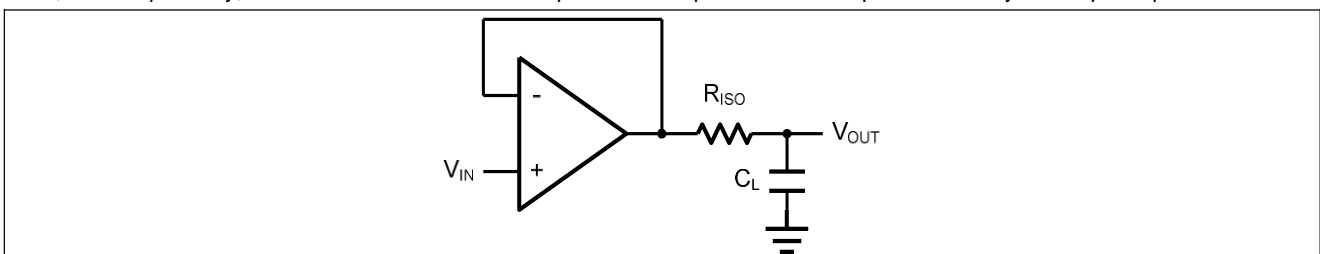
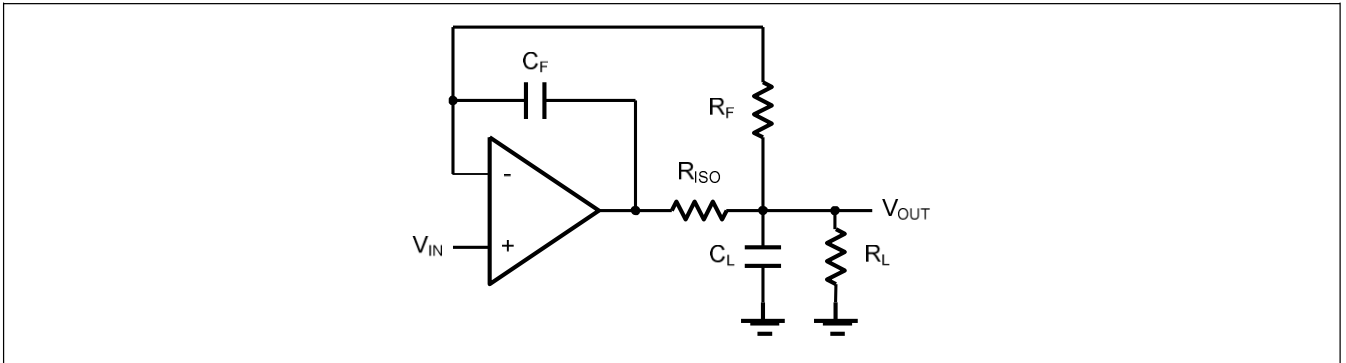

Figure 2 Indirectly Driving a Capacitive Load Using Isolation Resistor
Figure 3. Indirectly Driving a Capacitive Load with DC Accuracy
The HT600X family is optimized for bandwidth and speed, not for driving capacitive loads. Output capacitance will create a pole in the amplifier's feedback path, leading to excessive peaking and potential oscillation. If dealing with load capacitance is a requirement of the application, the two strategies to consider are (1) using a small resistor in series with the amplifier's output and the load capacitance and (2) reducing the bandwidth of the amplifier's feedback loop by increasing the overall noise gain. Figure 2 shows a unity gain follower using the series resistor strategy. The resistor isolates the output from the capacitance and, more importantly, creates a zero in the feedback path that compensates for the pole created by the output capacitance.
The circuit in Figure 3 is an improvement to the one in Figure 2. R_F provides the DC accuracy by feed-forward the V_{IN} to R_L . C_F and R_{ISO} serve to counteract the loss of phase margin by feeding the high frequency component of the output signal back to the amplifier's inverting input, thereby preserving the phase margin in the overall feedback loop. Capacitive drive can be increased by increasing the value of C_F . This in turn will slow down the pulse response.